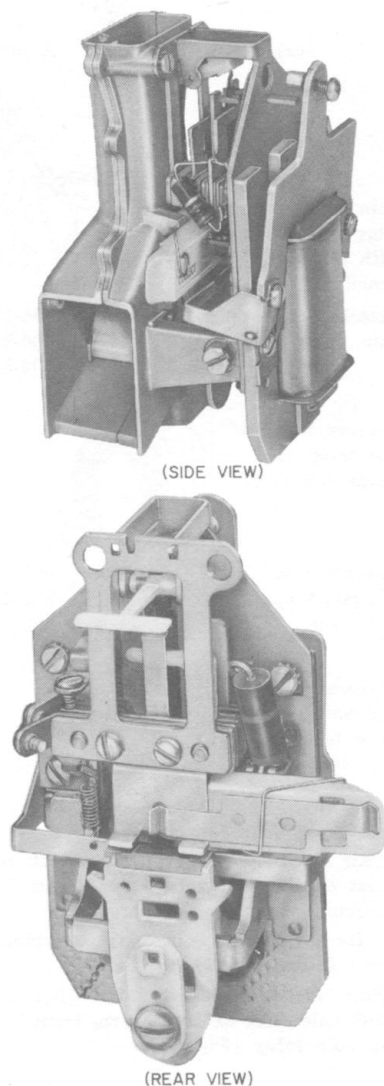

Fig. 2. — 146B Bias Margin Gauge in Position for Collect Test
- (2) Slip 146B bias margin gauge (Fig. 1) over left pole piece extension arm from left side of coin relay (Fig. 2).